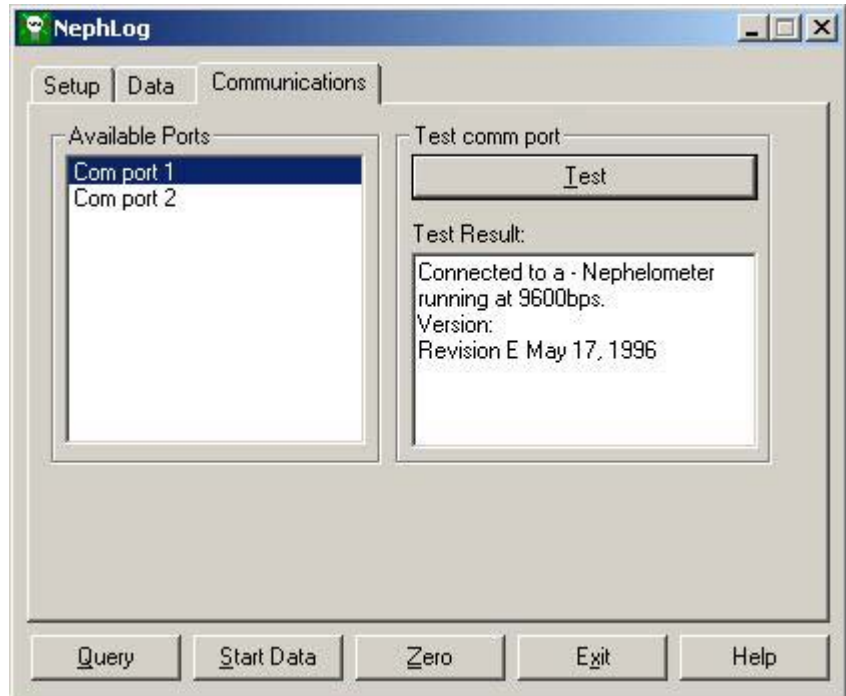

Figure 4-3
4. Click the **Communications** tab. The Communications tab options become available (Figure 4-3).